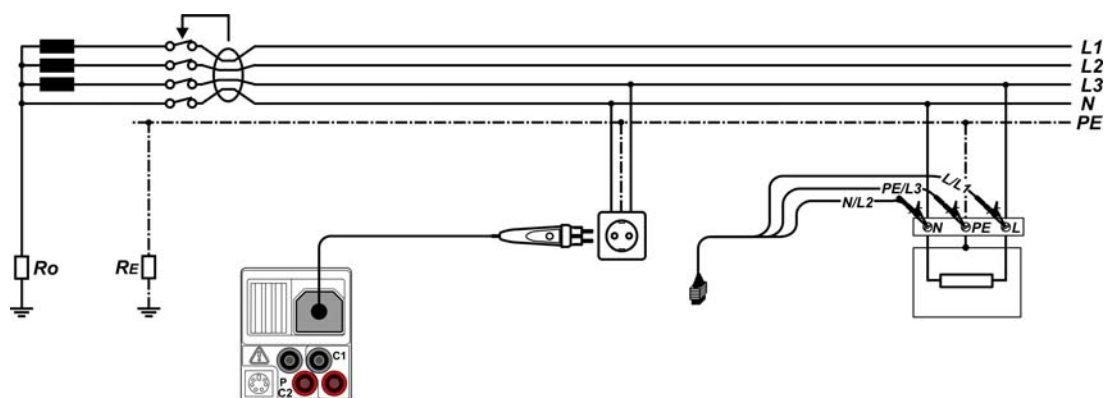

Figure 5.17: Connecting the plug commander and the 3-wire test lead
- ❑ **Connect** test leads to the item to be tested (see figure 5.17).
- ❑ **Connect** test leads to the item to be tested (see *figure 5.17*).
<ul style="list-style-type: none"> ❑ Select the RCD function using the function selector keys. ❑ Set sub-function AUTO. ❑ Set test parameters (if necessary). ❑ Connect test cable to the instrument. ❑ Connect test leads to the item to be tested (see figure 5.17). ❑ Press the TEST key to perform the test. 	Start of test